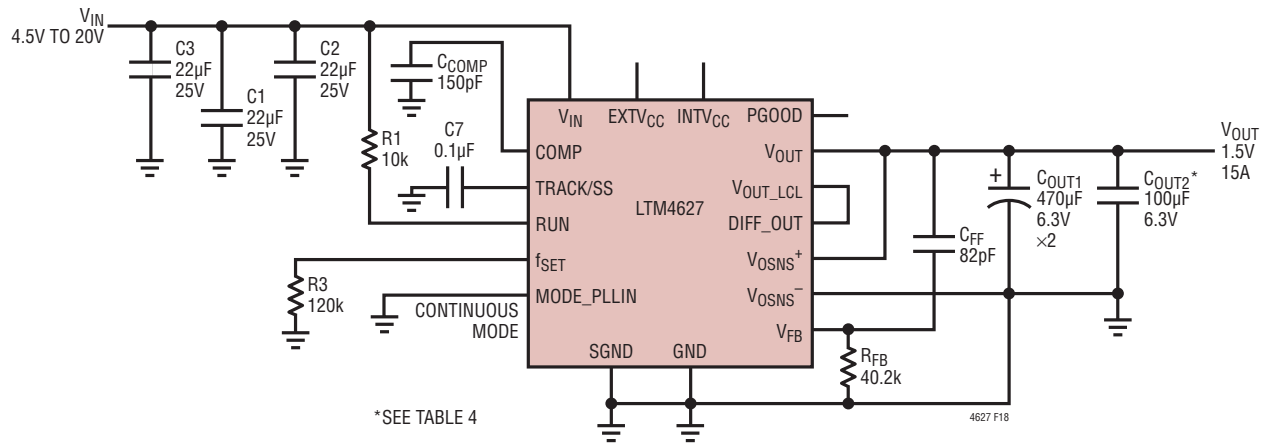

Figure 18. 4.5V to 20VIN, 1.5V at 15A Design
**Table 4. Output Voltage Response vs Component Matrix (Refer to Figure 18) 0A to 7.5A Load Step**